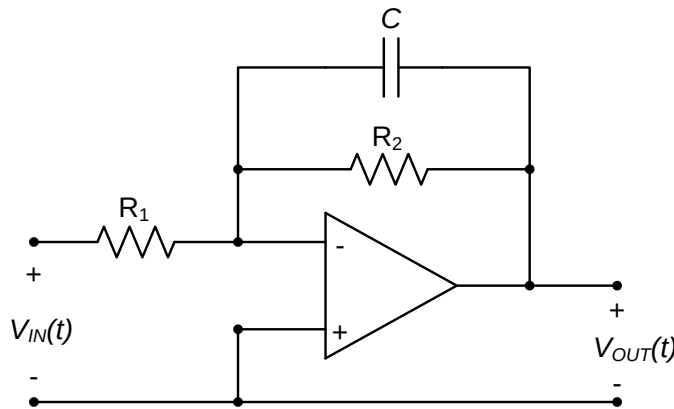

Figure 1. Inverting low-pass filter circuit.
The circuit of Fig. 1 is an inverting low pass filter. The magnitude response of the circuit is
In this assignment, we will choose values of  $R_1$ ,  $R_2$ , and  $C$  in the circuit of Fig. 1 to meet design requirements set on:
- **Input resistance:** the input resistance is the ratio of input voltage to input current for a circuit. In the circuit of Fig. 1, the input resistance essentially specifies the resistance  $R_1$ .
- DC gain: the DC gain is, from equation (1), the ratio of  $R_2$  to  $R_1$ . Once  $R_1$  is determined from the input impedance requirement, the DC gain specifies the required value for  $R_2$ .
Design the circuit of Fig. 1 (e.g. choose values for  $R_1$ ,  $R_2$ , and  $C$ ) to meet the following design requirements: